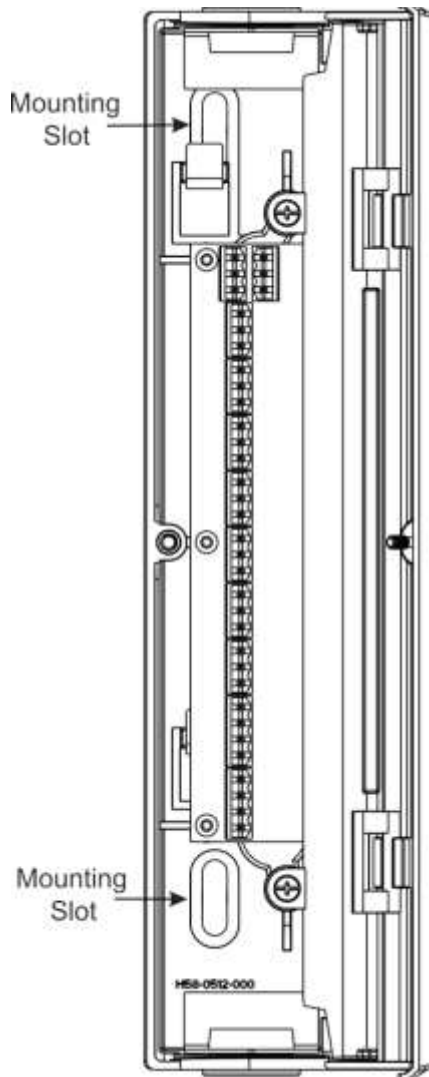

Figure 2: Mounting Slots for Mounting Studs
3. push the unit down onto the mounting clips and secure it with the supplied washer and nut on at least one of the two mounting studs protruding through the mounting slots shown in Figure 2.